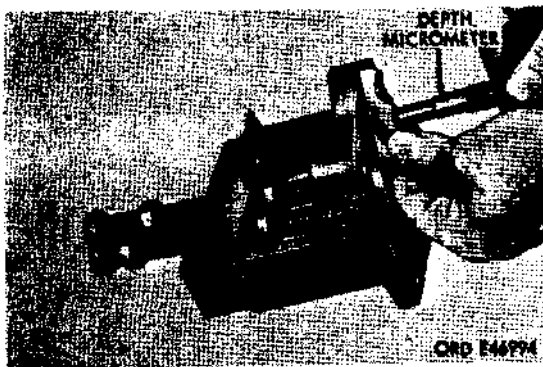

Figure 235. Measuring shoulder height on adjusting fixture flange
i. Using a depth micrometer (fig. 235) measure shoulder height on fixture flange and bearing cover flange.
i. Using a depth micrometer (fig. 235), measure shoulder height on fixture flange and bearing cover flange.